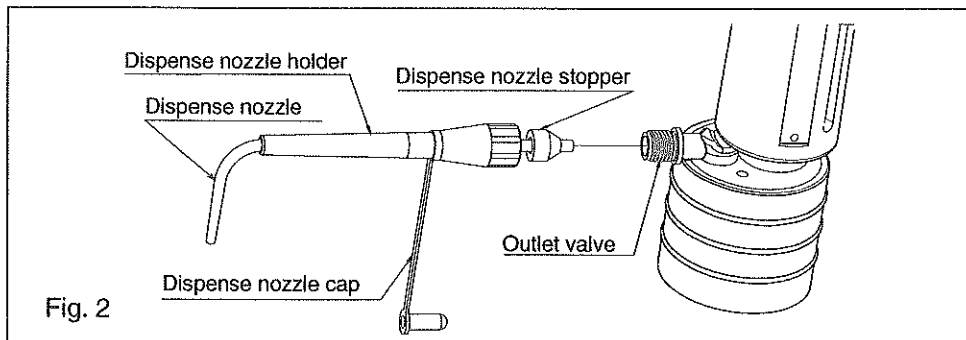

Fig. 2
- 1 Twist the dispense nozzle holder in the outlet valve and place the dispense nozzle after checking that the dispense nozzle stopper and the dispense nozzle is connected inside the dispense nozzle holder (Fig. 2).